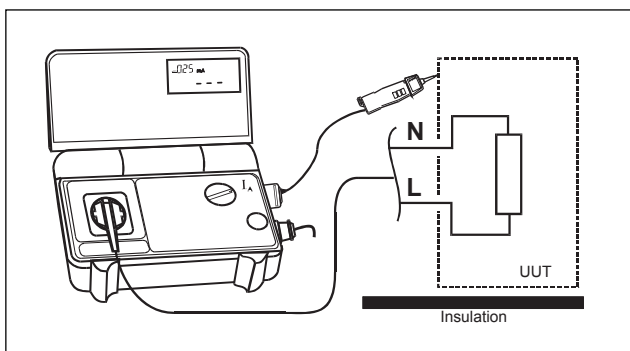

Fig. 7.25
- Scan all touchable, conductible UUT parts by means of COMMANDER 1 (Fig. 7.25).